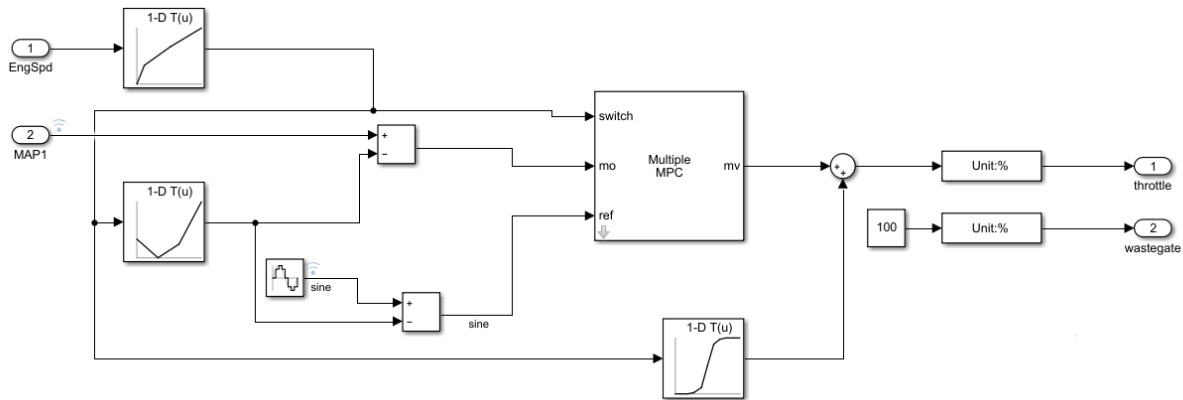

Figure 5: MPC Block Implementation
- Note: Figure 5 is for differential actuator-MAP models (see MATLAB's 'detrend' function', which is used in the GenerateMPCDesigns). The RunMe produces differential models.
- Note: Figure 5 is in the Simulink model SiEngineController.slx or can be navigated to from the top model by navigating to 'Engine System' → 'Engine Controller' → 'Engine Controller'